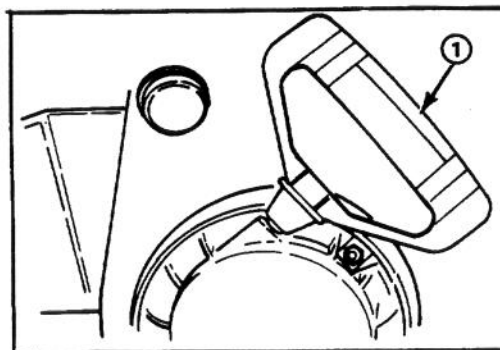

Figure 12
**Recoil Starter** (Fig. 12) — Recoil starter is on back side of engine. Pull recoil starter to start engine.
6. Grasp recoil starter handle (Fig. 12) and pull it out slowly until positive engagement results; then pull vigorously to start the engine. Keep firm grip on starter handle and return the rope slowly.